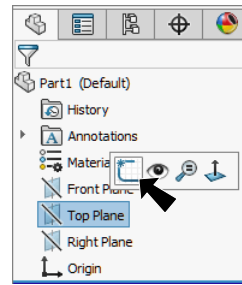

Fig. 1
Step 2. Click **Top Plane** in the Feature Manager and click **Sketch** on the context toolbar, **Fig. 1**.
Step 3. Click **Circle** (S) on the Sketch toolbar.